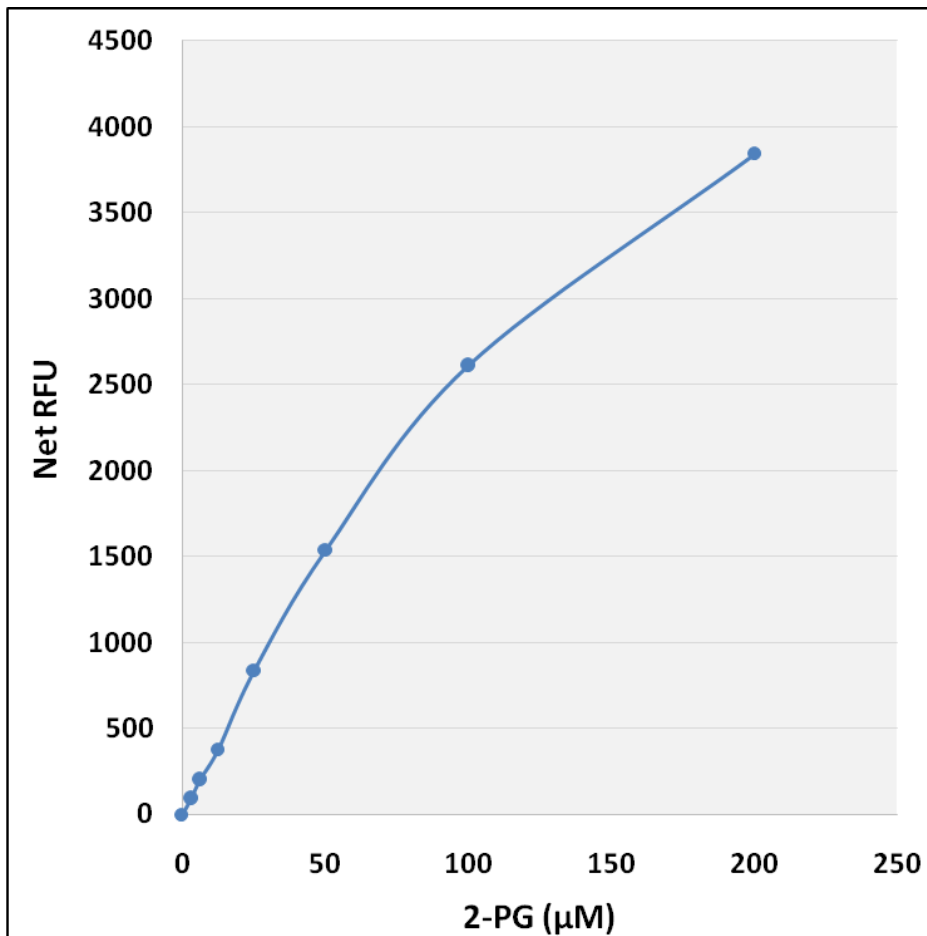

Figure 2: 2-PG Standard Curve.
3. Graph the standard curve (see Figure 2).